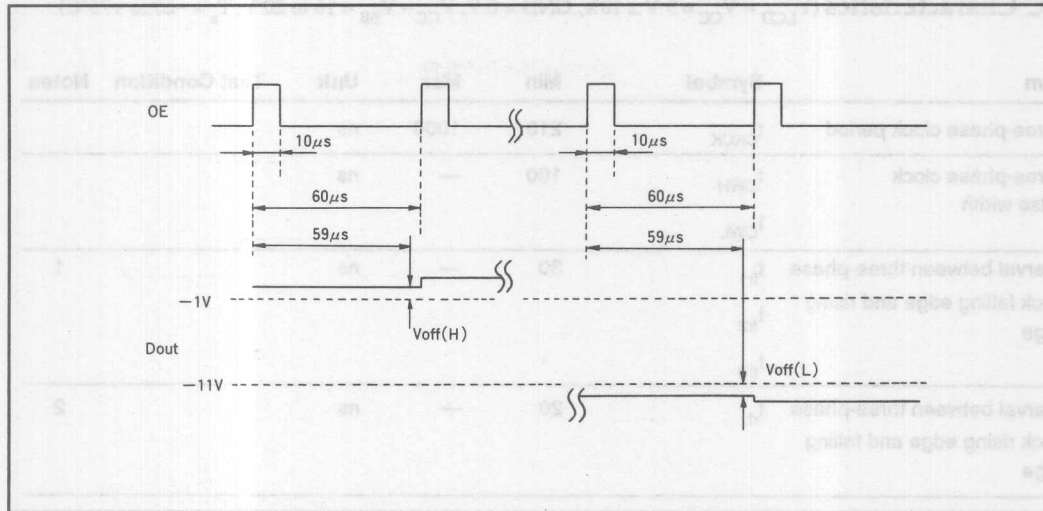

Figure 27 Offset Voltage
8. Definition of "offset voltage" is shown figure 27.